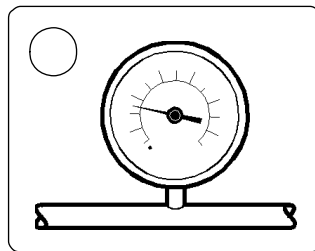

Figure C-1. Glue-Pressure-Edit-Menu Icon Button
1. Press the glue-pressure-edit menu icon button (Figure C-1). The glue-pressure-edit menu displays (Figure C-2). The glue-pressure-edit menu contains the glue-pressure table.